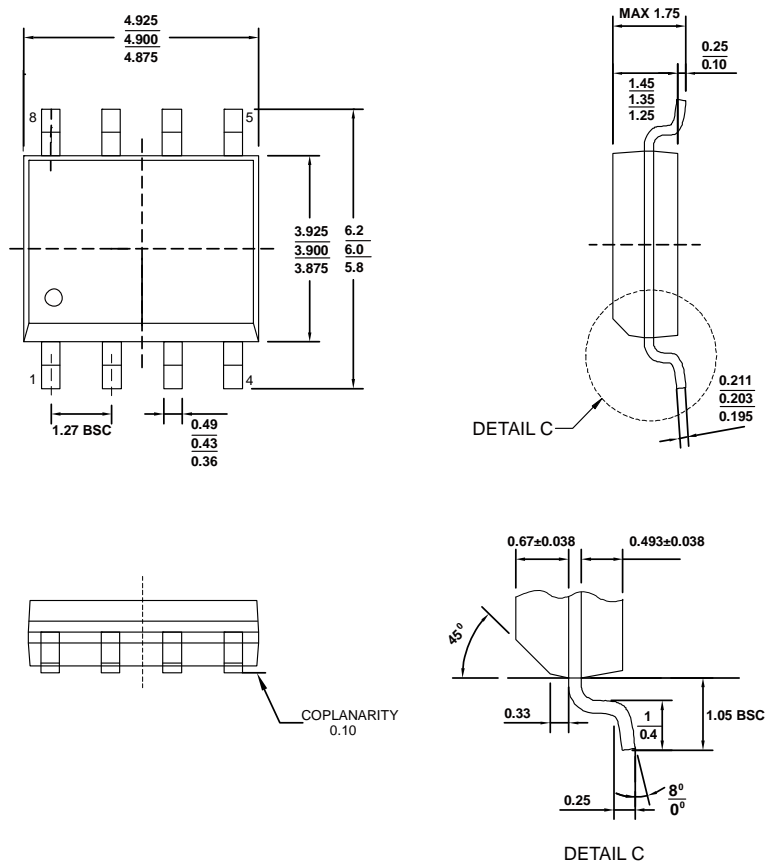
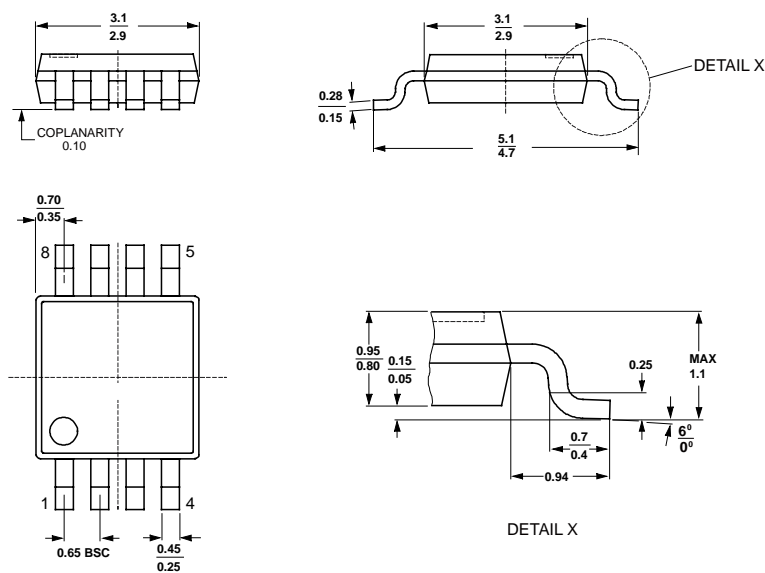
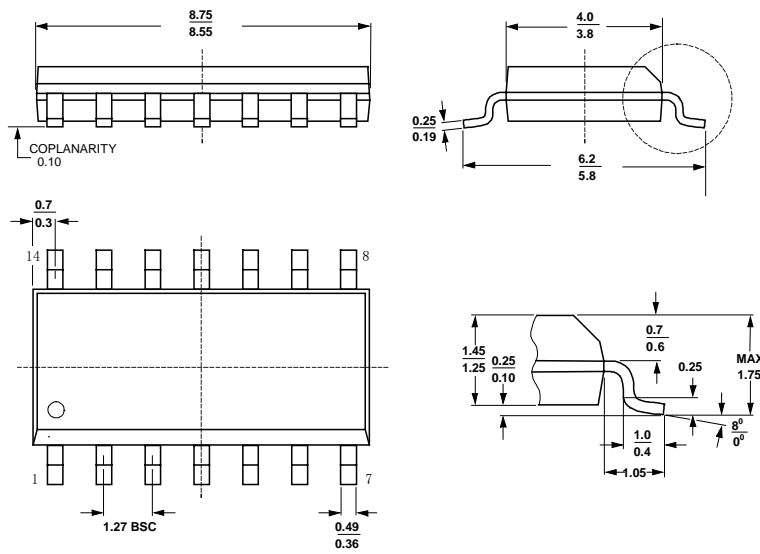

Figure 46. 8-Lead SOIC Package Dimensions shown in millimeters
Figure 47. 8-Lead MSOP Package Dimensions shown in millimeters
Figure 48. 14-Lead SOIC Package Dimensions shown in millimeters
- Place the external components as close to the device as possible. As illustrated in Figure 46, Figure 47, Figure 48 and Figure 49, keeping  $R_F$ ,  $R_G$  and  $C_F$  close to the inverting input minimizes parasitic capacitance.